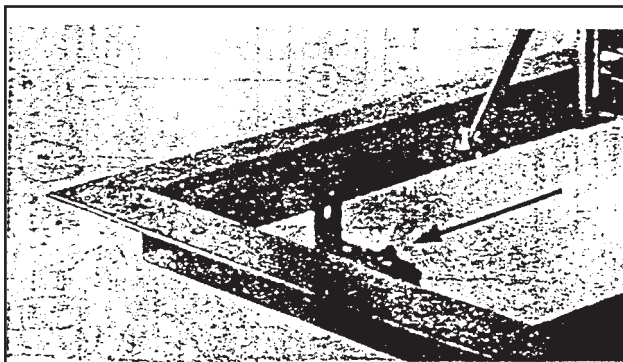

Figure 1
1. Upper guide rail assembly - Assemble the two upper guide rail inserts (2) onto the two upper guide rail brackets (1), tighten nuts finger tight.
2. Mount one upper guide rail assembly on each side of the access frame where slots are provided, as shown in Figure 1, using 1/2" and 1½" capscrows, nuts and washers furnished. Tighten nuts finger tight.
3. Attach sensor support bracket mounting lug (3), also the cable holder and chain hook (4) to the access frame where nuts are welded to the frame, as shown in the drawings.
4. Lower sole plate (296) and discharge elbow (295) into the sump.
- B. Sole Plate (296)